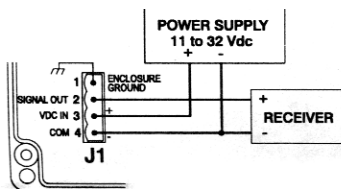
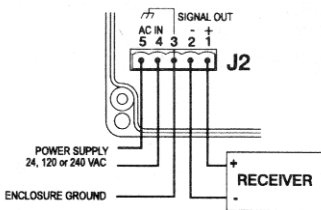

Figure 1
Figure 2
A. Series W10 or W20- Connect a voltmeter across the signal terminals (see Figure 1 or Figure 2, respectively), and adjust the ZERO potentiometer R2 until the voltage reads 0.01 V (if 0-5V span), or 0.02V (if 0-10V span). Next apply the full rated differential pressure to the high pressure port and adjust the SPAN potentiometer R1 until the output reading is 5.00V (if 0-5V Span), or 10.00V (if 0-10V Span).
Figure 1 shows typical transmitter wiring.
The power supply leads are connected to the two leftmost terminals (terminals 4 and 5) on the pluggable terminal strip (see Figure 2). Terminal 3 is enclosure ground. The output signal is accessed across terminals 2 and 1, the rightmost terminals, labeled "-" and "+" (see Figure 2). The signal output is transformer-isolated from the power supply. The output signal is totally floating and either the "+" or the "-" terminal may be grounded. The output current, whether sinking or sourcing, should be limited to about